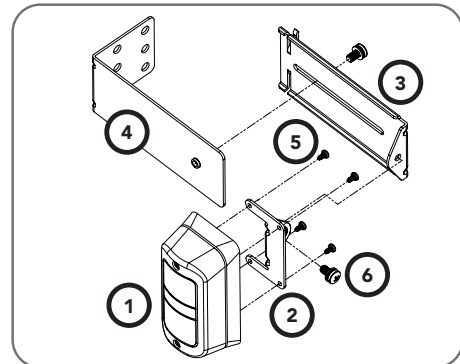

Fig. 6.9
- Attach the mounting bracket (4) to adjustment bracket (3) with the pan head screw (6) (supplied) (Fig 6.9)
- Attach the PE 2000TS Bracket (2) to PE Beam Transmitter (IR200TS-TX) with four taptime screws (M3x5) and attach the other side to adjustment bracket (3) with the pan head screw (6) (supplied).